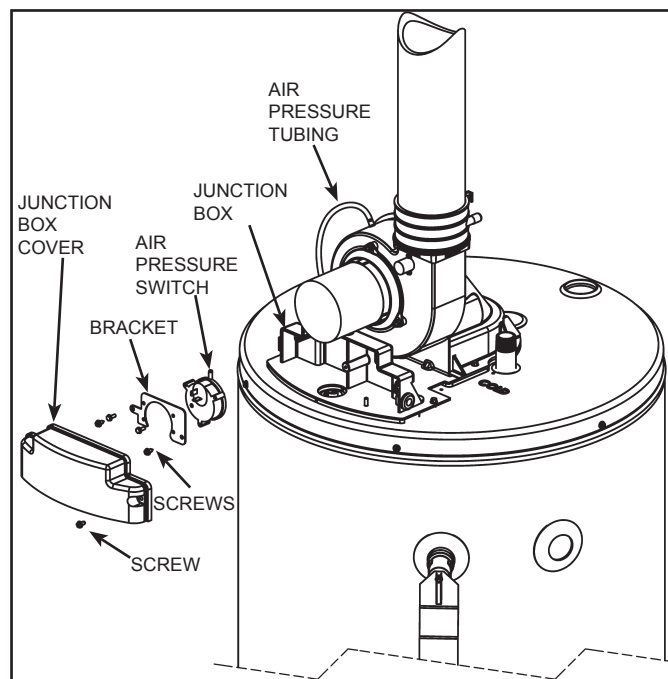

Figure 30. Removing the Pressure Switch
6. After noting the position of each electrical flag terminals, remove the two (2) electrical flag terminals from the switch by pulling outward and off the switch.
7. Using a hex head screwdriver, remove and retain the 2 screws securing the bracket to the junction box. See **Figure 30**.
8. Using a hex head screwdriver, remove and retain the 2 screws securing the pressure switch to the bracket. See **Figure 30**.
1. Using a hex head screwdriver, secure the new pressure switch to the bracket with the screws removed in step 8 above. Care should be taken to ensure the proper orientation of the bracket and pressure switch. See **Figure 30** (page 25).
2. Using a hex head hex screwdriver, secure the bracket to the junction box with the screws removed in step 7 above. See **Figure 30** (page 25).
3. Reattach the two (2) electrical flag terminals by pushing the flag terminals onto the switch. Care MUST be taken to ensure that each of the electrical flag terminals is in its original position.